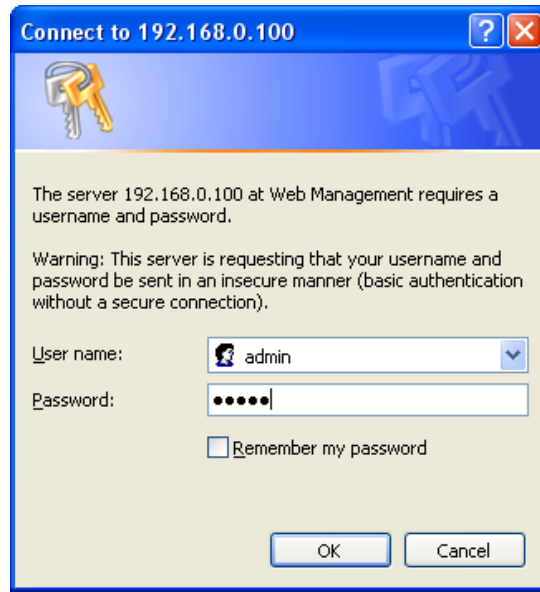

Figure 7-2: Login Screen
2. When the following dialog box appears, please enter the default username and password “**admin**” (or the password you have changed via console). The login screen in Figure 7-2 appears.